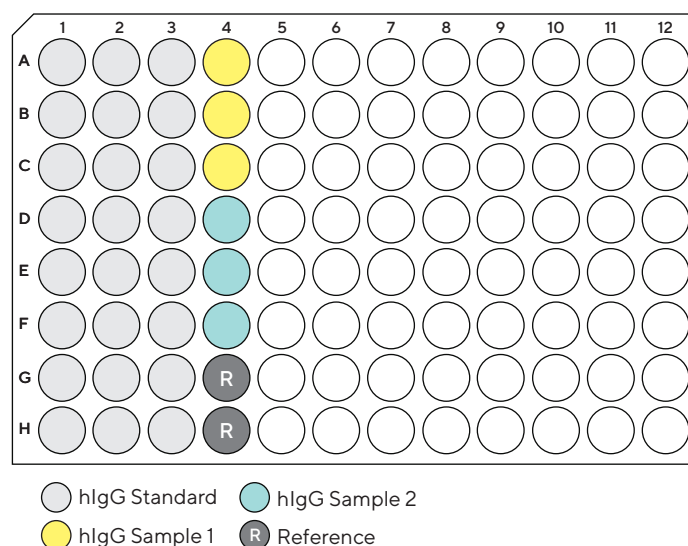

Figure 4. Example plate layout for a spike recovery assay.
3. Transfer triplicates of the prepared standards and the samples to a sample plate. It is recommended to organize samples from row A–H. Fill at least one well with a blank diluted matrix for reference subtraction during data analysis. An example plate map is shown in Figure 4.